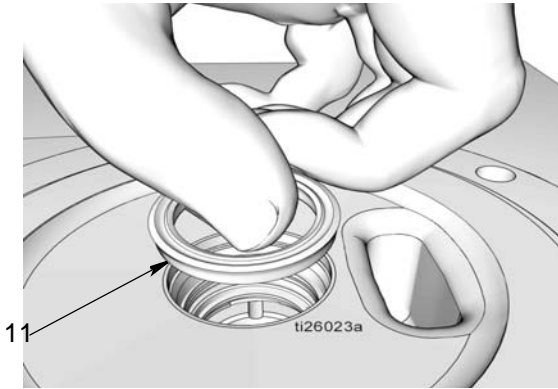

FIG. 37
- h. Install seal (11), with the lips facing up as shown in FIG. 37.